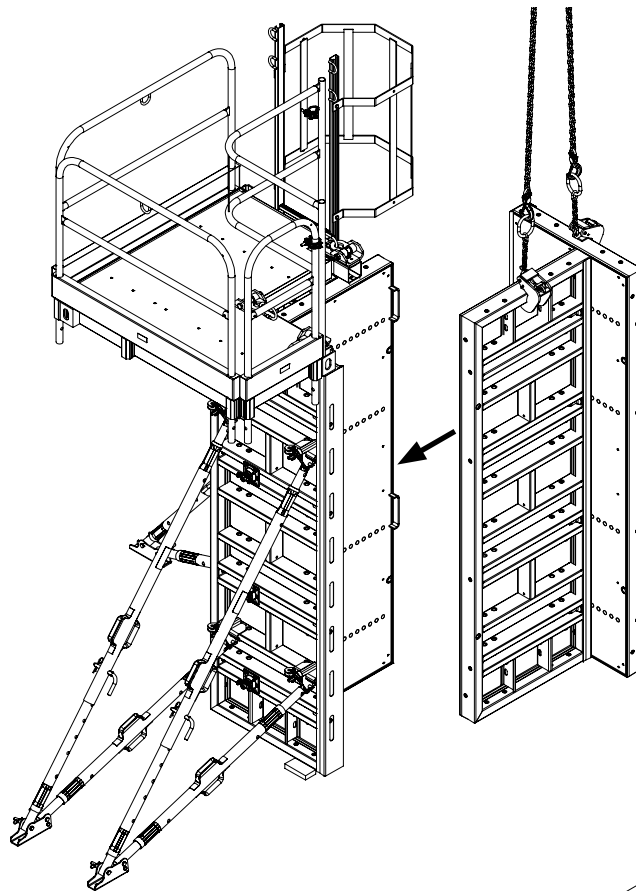

Fig. A4.04
3. Position formwork half. (Fig. A4.04)